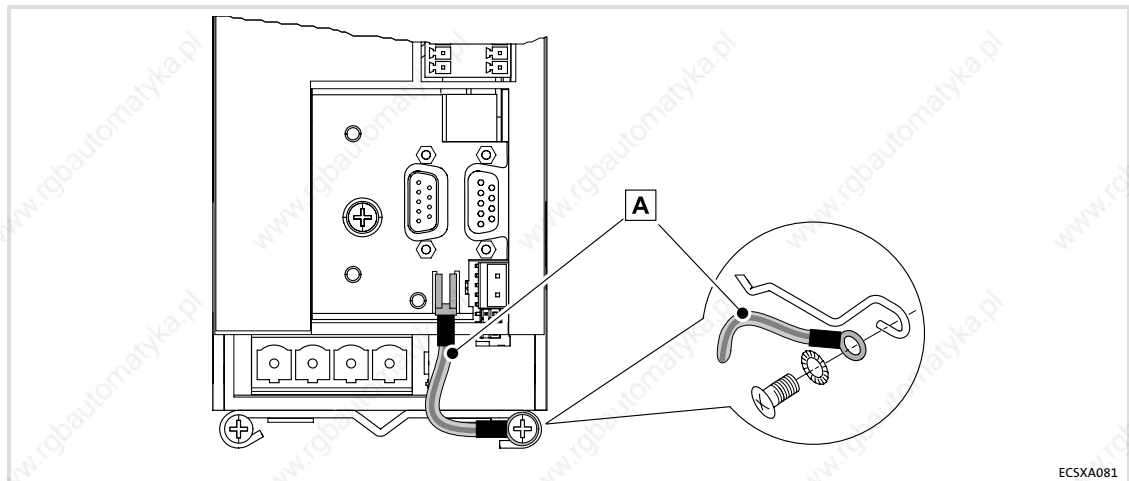

Fig. 4-4 Functional earth conductor at the axis module ECSDA...
4. Fix the wire clamps together with the functional earth conductor supplied (Fig. 4-4).
7. Connect the functional earth conductor to the axis module (Fig. 4-4).